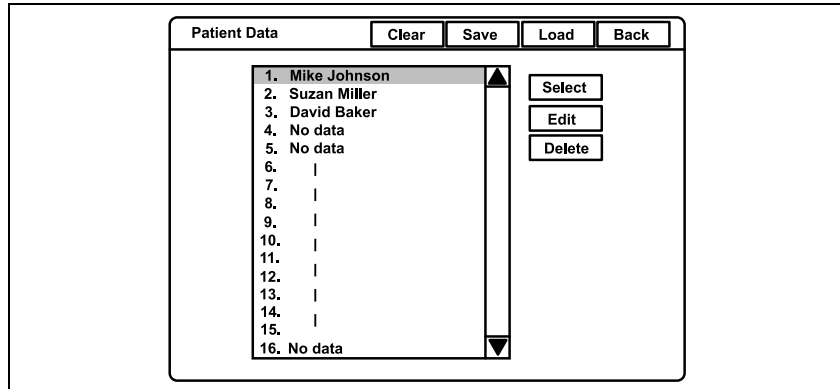

Figure 5.88
7. After finishing entering the data, click “Back” to return to the patient name list (see Figure 5.88).